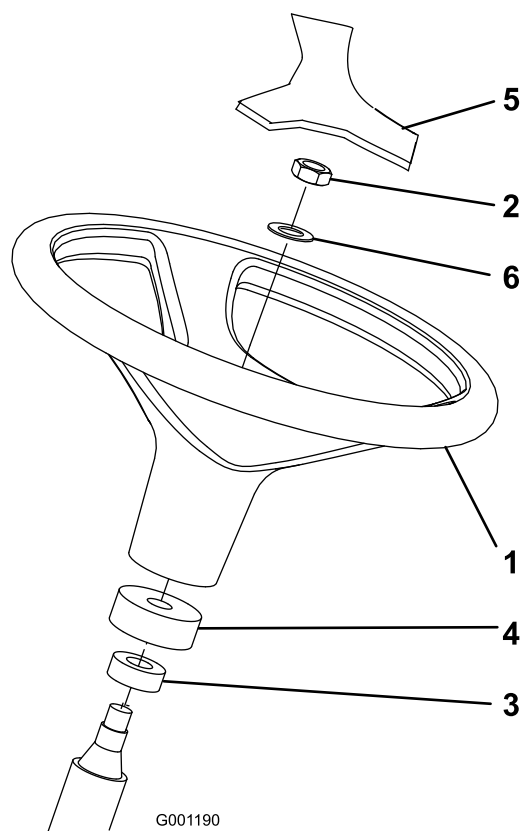

Figure 3
2. Remove the jam nut and washer from the steering shaft. Ensure that the foam collar and dust cover remain on the steering shaft (Figure 3).
3. Slide the steering wheel and washer onto the steering shaft (Figure 3).
5. Mount the cover to the steering wheel (Figure 3).